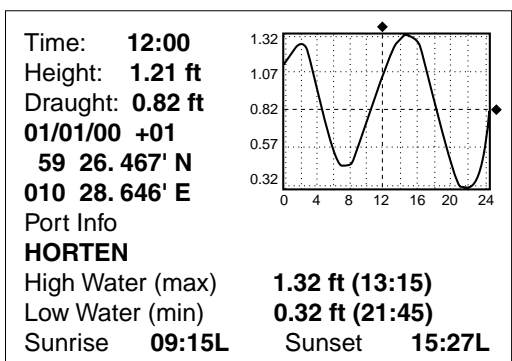

Figure 12-10 TIDE window
6. Press the soft key GO TO. Soft key titles change as in Figure 12-10. If GO TO key is not displayed, press the cursor pad.